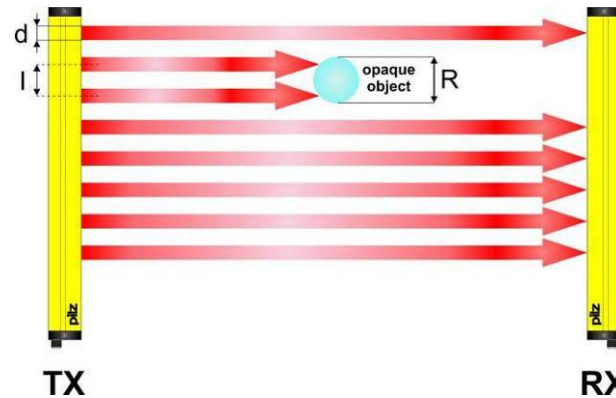

Fig. 1
The resolution (R) of a device is understood to be the minimum size an opaque object must be in order to obscure at least one of the beams that form the sensing area. As shown in Fig. 1, the resolution depends exclusively on the geometrical properties of the lenses, the diameter and the centre distance; it is independent of the ambient and operating conditions of the light curtain.